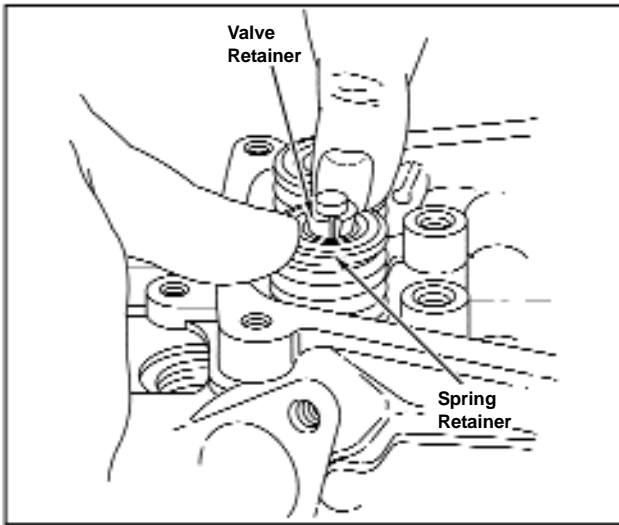

Figure 90 - Removing Valves
2. With thumbs, press down on spring retainer and valve spring to compress valve spring, Figure 90.
6. Repeat for other valve, Figure 90.